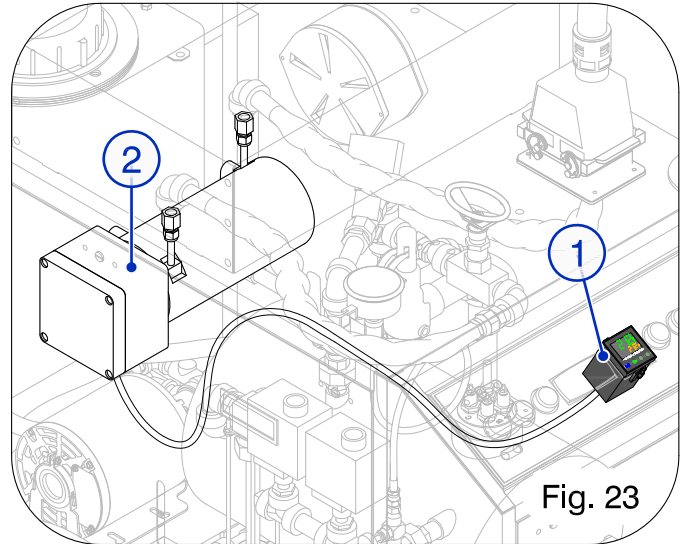
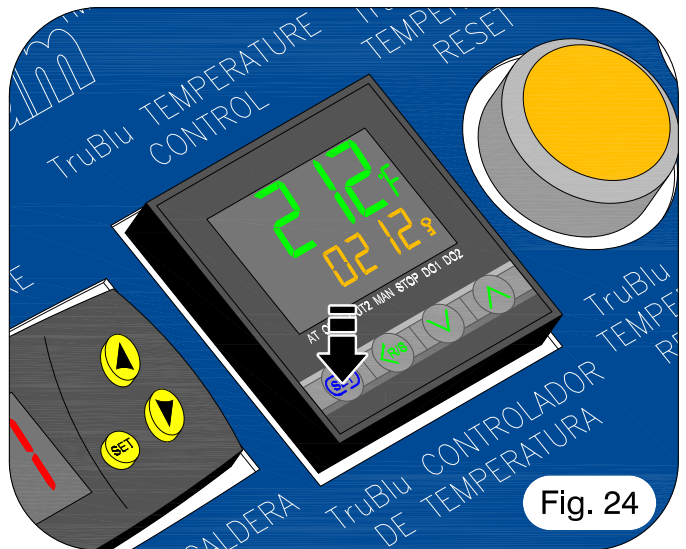

Fig. 23
Fig. 24
- As soon as the **GREEN (Boiler On) Switch (3-Fig. 17)** is pressed and illuminated, the **TruBlu™ Super-Heater (2-Fig. 23)** will begin heating along side the Boiler.
- The **TruBlu™ Temperature Display/Control (1-Fig. 23)** will simultaneously display the current **Temperature** of the **TruBlu™ Super-Heater (2-Fig. 23)** on the top and the current **Set Point** on the bottom.
- The **Temperature** of the **TruBlu™ Super-Heater (2-Fig. 23)** will keep changing until it reaches the **Set Point** of the **TruBlu™ Temperature Display/Control (1-Fig. 23)** and will then maintain that temperature.
- To change the **Set Point** of the **TruBlu™ Temperature Display/Control (1-Fig. 23)**, first press the **(SET)** key. (Fig. 24)
NOTE: **TruBlu™ Temperature Display/Control (1-Fig. 23)** is locked so that it can only be set between **212 - 500°F (100 - 260°C)**